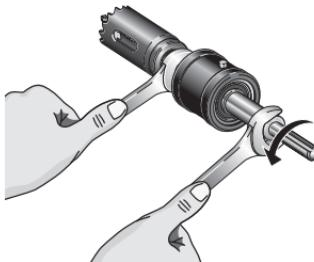

Figure 17 – Replacing the Hex Chuck Shaft
2. Loosen and remove the Hex Shaft with an  $\frac{5}{8}$ " wrench (Figure 17).